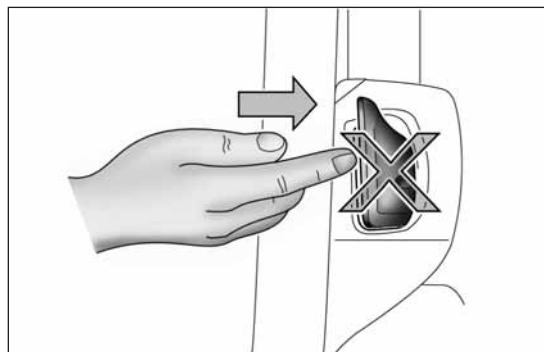

fig. 10
**Using the levers incorrectly (levers pushed towards the dashboard, see fig. 10) could break them.**